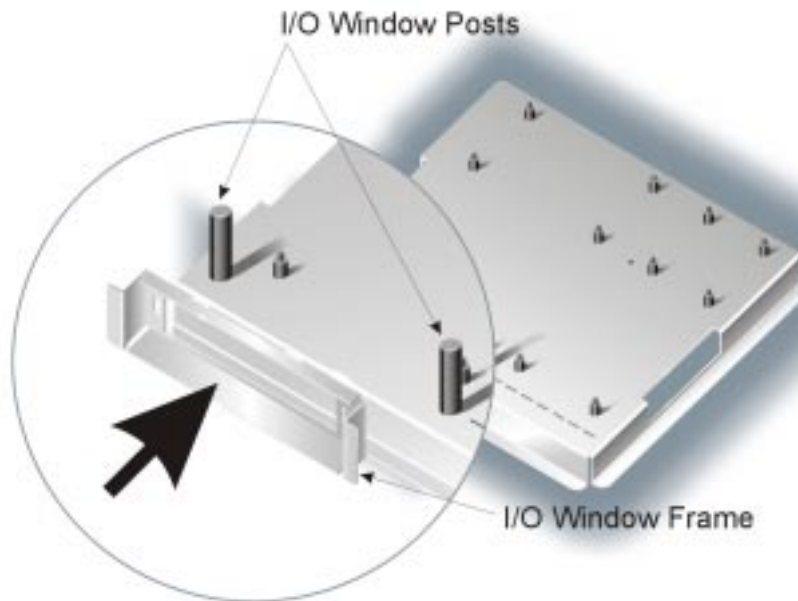

Figure 3. I/O Window Frame Gauge
Figure 3 shows the I/O window frame gauge and the I/O window posts. The six notches along the edges of the frame indicate the allowed bezel overhang for I/O shield designs.
3. Visually check the shield height and width to make sure these dimensions are within tolerance. Make sure that any frame or bezel feature on the I/O shield does not extend farther than the inner edges of the six notches around the outside of the frame (notches not shown in Figure 3).